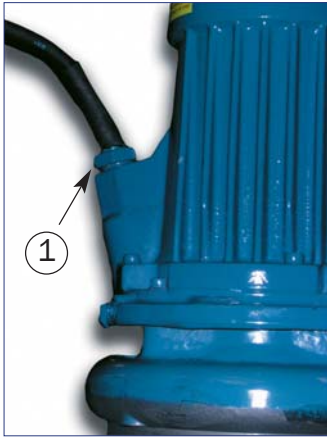

Fig 7.1
Turn cable inlet hex head (1) clockwise 1/6 of a turn using a suitable wrench (Fig. 7.1.).